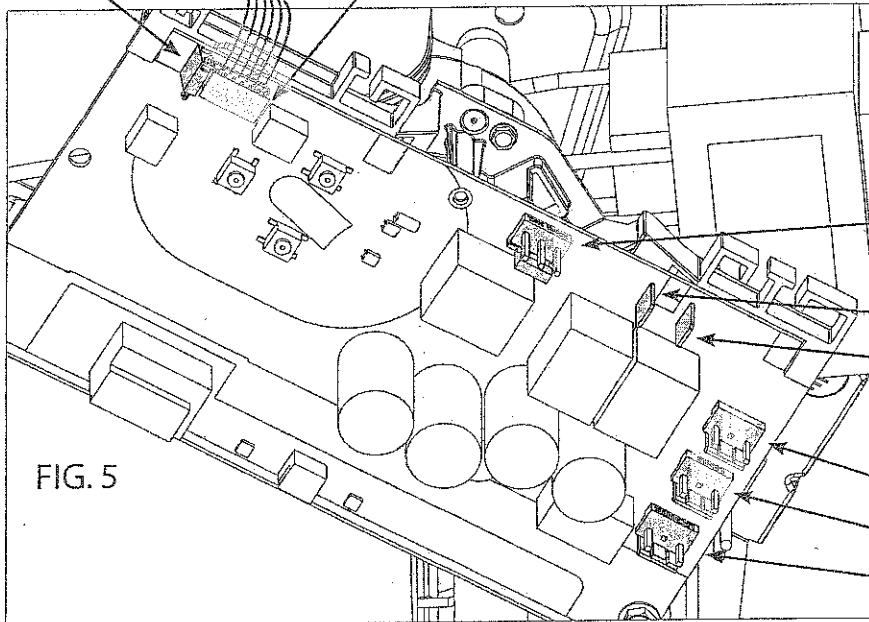

FIG. 5
7. Unplug these harnesses from control board, FIG. 5.
- Motor Wires (2)